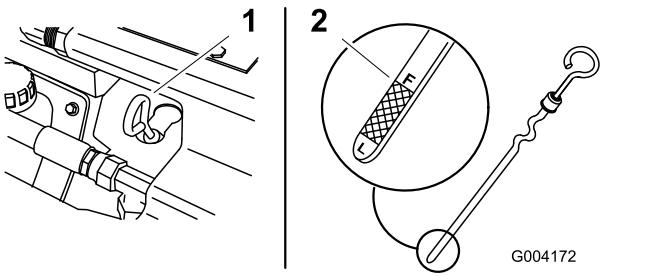

Figure 35
- Clean the area around the oil dipstick (Figure 35).
- Pull out the dipstick and wipe the metal end clean (Figure 35).
- Slide the dipstick fully into the dipstick tube (Figure 35).